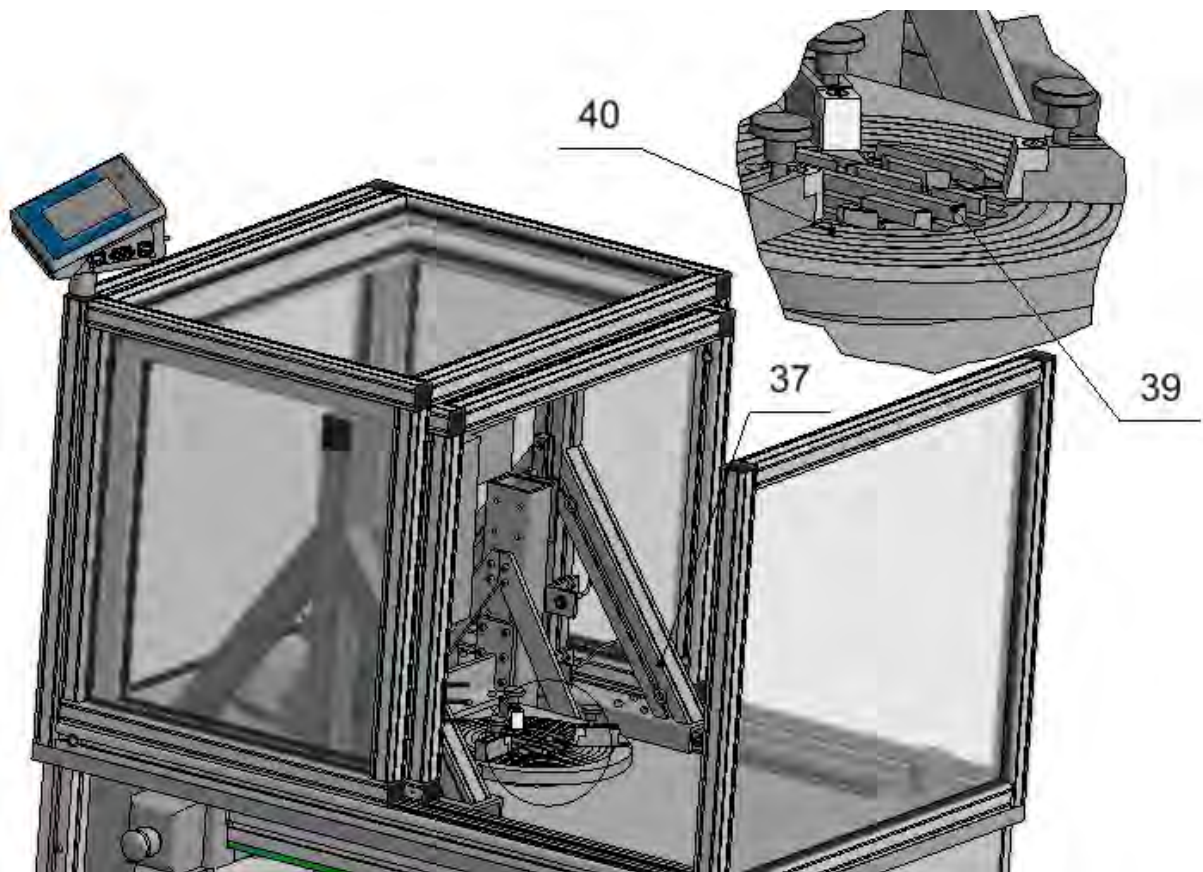

Fig.17
32. Make sure that the weight holder assembly (37) takes lower position, next check holder grill (40) location in relation to weighing pan ring (39). The weighing pan ring shall stick 5-7 mm over holder grill. (Fig. 17)